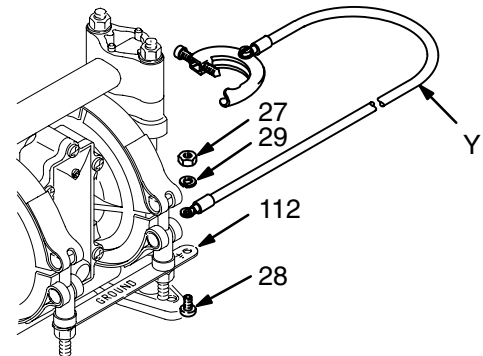

Fig. 1
- *Pump:* Attach a ground wire (Y) to the grounding strip (112) with the screw (28), lockwasher (29) and nut (27), as shown in Fig. 1. Connect the clamp end of the ground wire to a true earth ground. Order Part No. 222011 Ground Wire and Clamp.